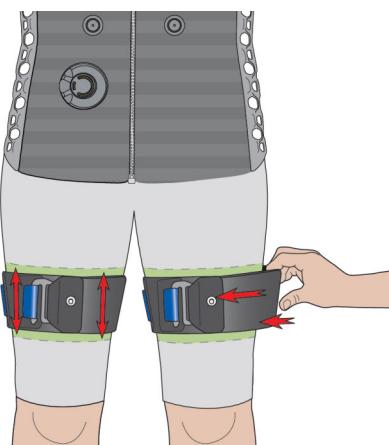

Fig. 46: Positioning the i-body® strap flex
16. Turn the i-body® strap flex so that the pushbutton faces forwards (Fig. 46).